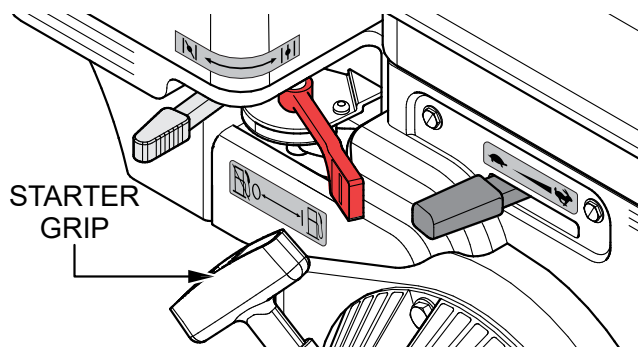

Figure 12. Starter Grip
5. Slowly pull the **starter grip** (Figure 12) until resistance is felt, then pull briskly and smoothly to start the engine. Gently return the starter grip to its original position.